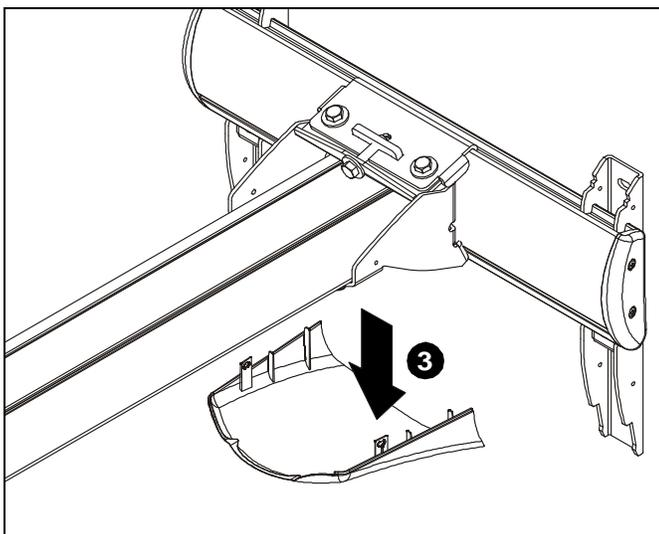

Figure 24
3. Remove lower cover from mount. (See Figure 24)